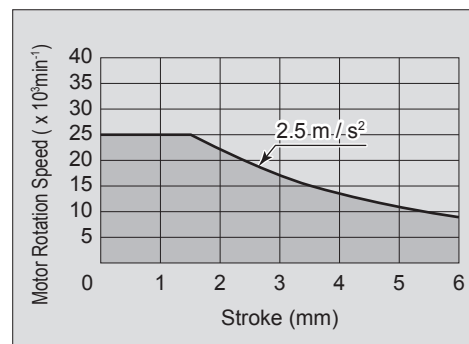

Fig. 1
- Do not use LUSTER at vibration levels of 2.5 m/s2 and higher. Select the combination of motor rotation speed and stroke so that the vibration level stays in the shaded area as shown on the chart lower right (Fig. 1)
Maximum Allowable Motor Rotation Speed	Less than 25,000min -1 (rpm) (Refer to Fig. 1)
Vibration Level	Use the Attachment less than 2.5m / s 2 (Refer to Fig. 1)
- Adjust the stroke according to the " 1. CAUTIONS FOR HANDLING AND OPERATION (Fig. 1) ".